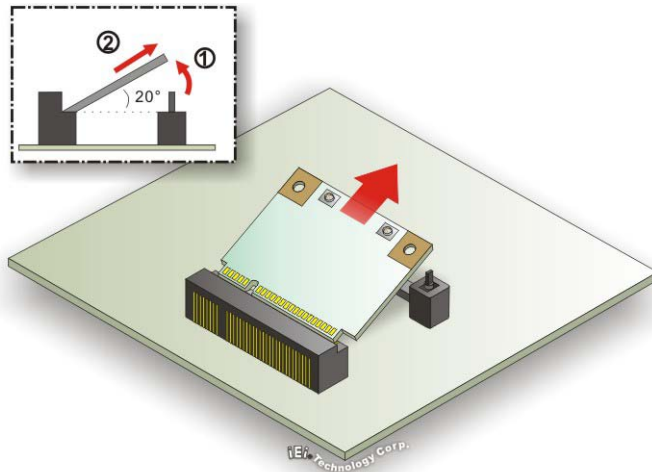

Figure 6-6: Removing the WLAN card
Step 7: Grasp the WLAN card by the edges and carefully pull it out of the socket (Figure 6-6).